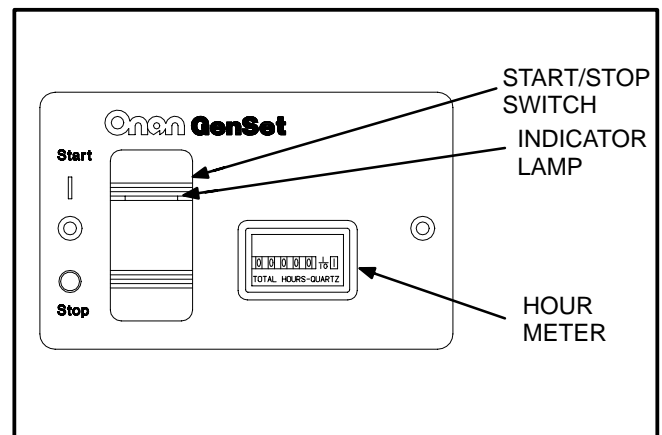

FIGURE 8-7. REMOTE PANEL WITH START/STOP SWITCH AND HOUR METER
- Remote panel with start/stop switch, indicator lamp, and hour (elapsed time) meter (see Figure 8-7).